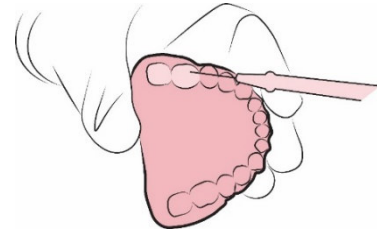

Fig. 4 Use pipette to place drops of uncured *Flexcera™ Base Ultra+* in alveoli
1. For uncured 3D printed artificial teeth use the pipette to place drops of *Flexcera™ Base Ultra+* resin in the alveoli of the uncured denture base, Fig. 4. Immediately after, place the individual teeth, segments or arches into the alveoli of the denture base with the uncured *Flexcera™ Base Ultra+* resin and proceed to post-curing in step 2. To avoid overcuring, place all individual teeth, segments or arches, then proceed to step 2.